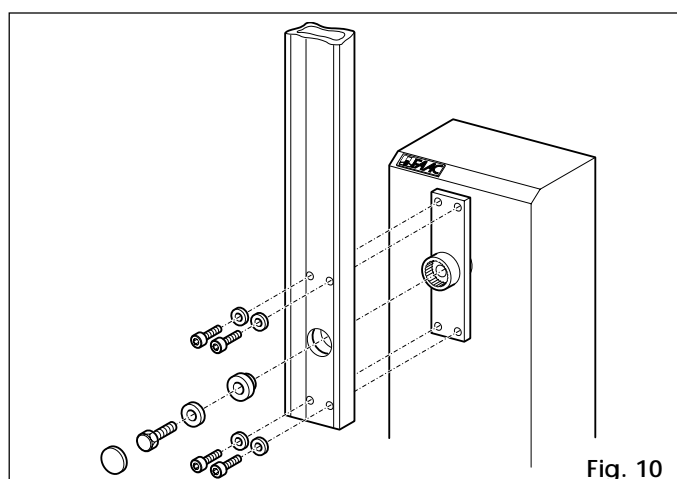

Fig. 10
- 4) Assemble the beam, using the screws supplied, as shown in Figures 10 and 10 b. Apply the cap to the hole (620 only). The rubber-edged side of the beam must be in the closing direction.